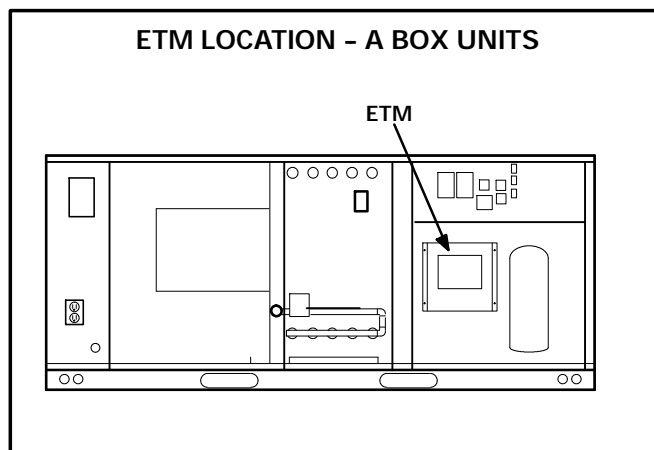
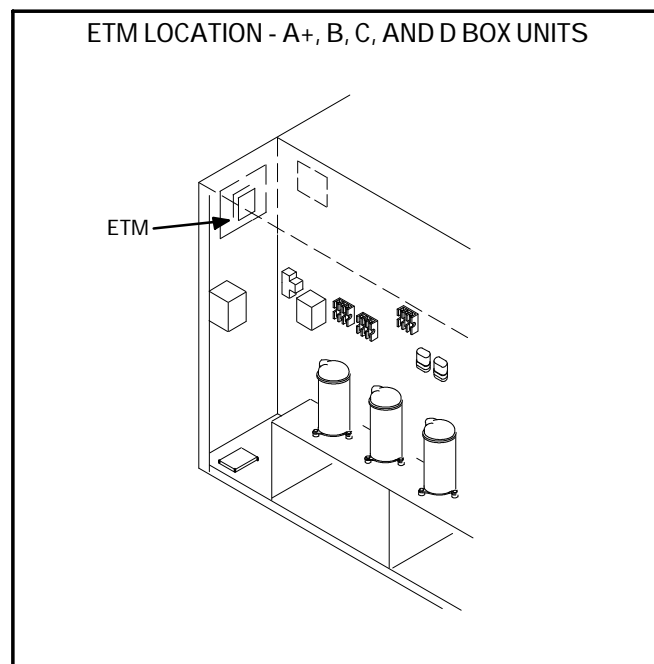

FIGURE 1
FIGURE 2
See figure 1 for location of control bracket and ETM module in A box units. See figure 2 for location of ETM bracket and module in A+, B, C, and D box units.
- 2- Position the smaller bracket on the partition behind the compressor as shown in figure 1. Align holes and secure in place with screws provided in kit.